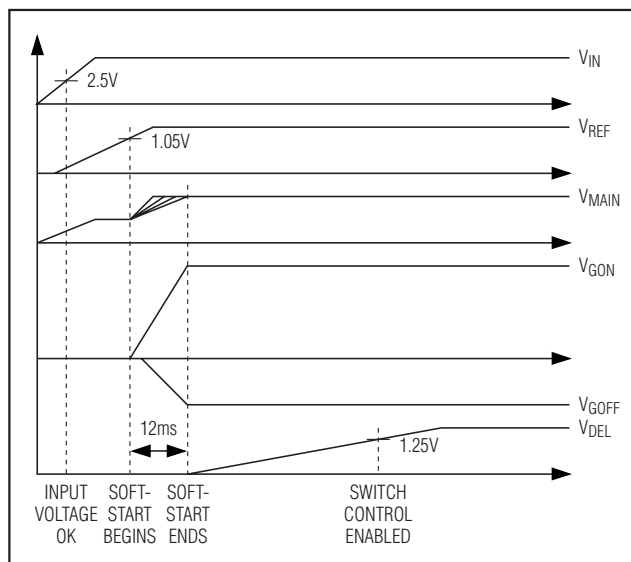

Figure 6. Power-Up Sequence
1.25V (typ), the switch-control block is enabled as shown in Figure 6. After the switch-control block is enabled, COM can be connected to SRC or DRN through the internal p-channel switches, depending upon the state of CTL. Before startup and when IN is less than  $V_{UVLO}$ , DEL is internally connected to AGND to discharge  $C_{DEL}$ . Select  $C_{DEL}$  to set the delay time using the following equation: